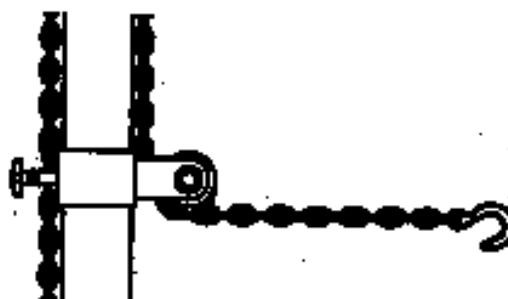

Figure 42
7. Let tower chain hang free momentarily to remove twist. Then, without twisting chain, attach hook to vehicle. Pull end of chain to tighten. (See Figure 42.)